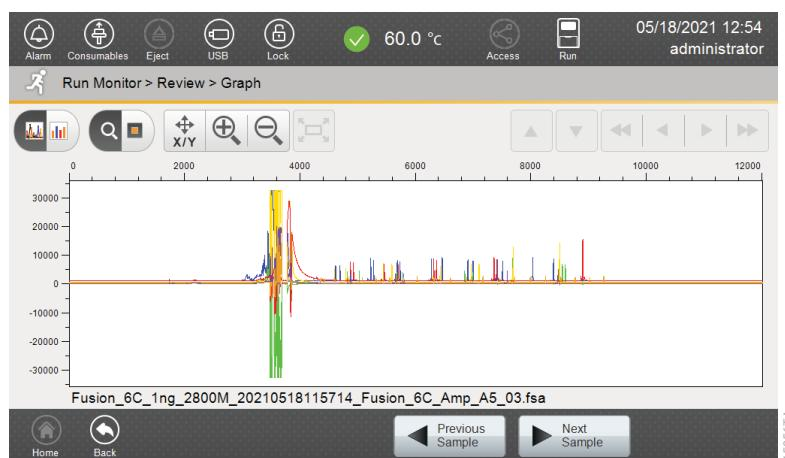
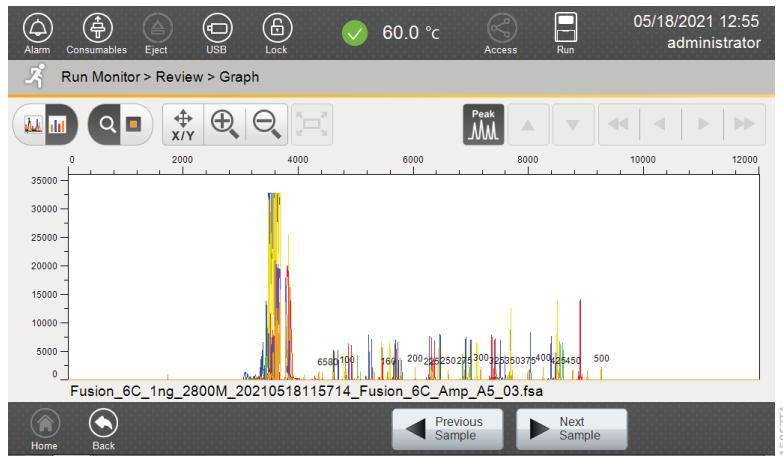
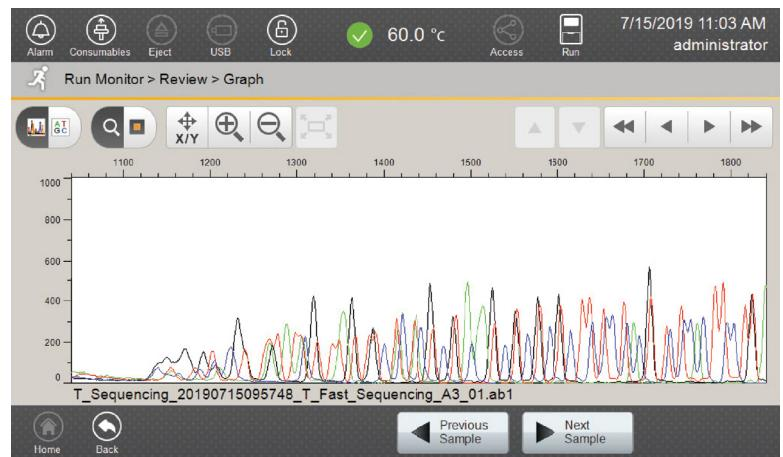
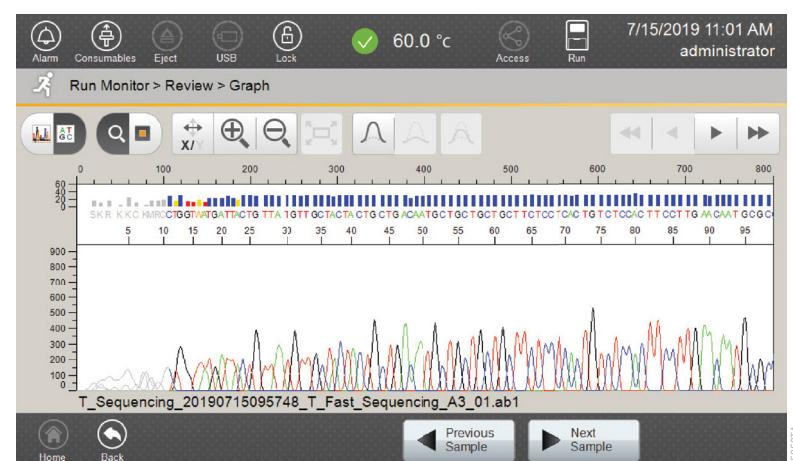

Figure 102. Fragment Analysis 'Result' tab raw data.
Figure 103. Fragment Analysis 'Result' tab analyzed data.
Figure 104. Sequencing Analysis 'Result' tab raw data.
Figure 105. Sequencing Analysis 'Result' tab analyzed data.
3. The raw data electropherogram is the default view of the 'Graph' screen. To view the analyzed data electropherogram, select the data toggle button in the upper left corner of the screen to toggle between raw and analyzed views (Figure 102, Figure 103, Figure 104 and Figure 105).
9. You can use **Previous Sample** and **Next Sample** in the footer (Figure 102, Figure 103, Figure 104 and Figure 105) to navigate through the samples of a run. To return to the 'Result' tab, select **Back** in the footer.